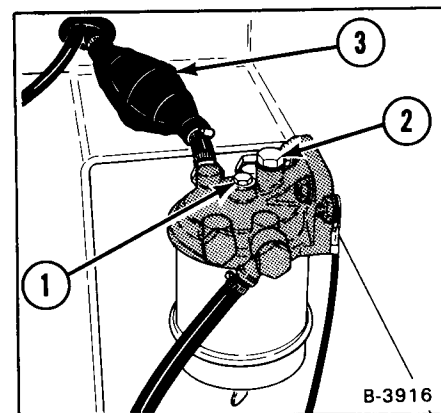
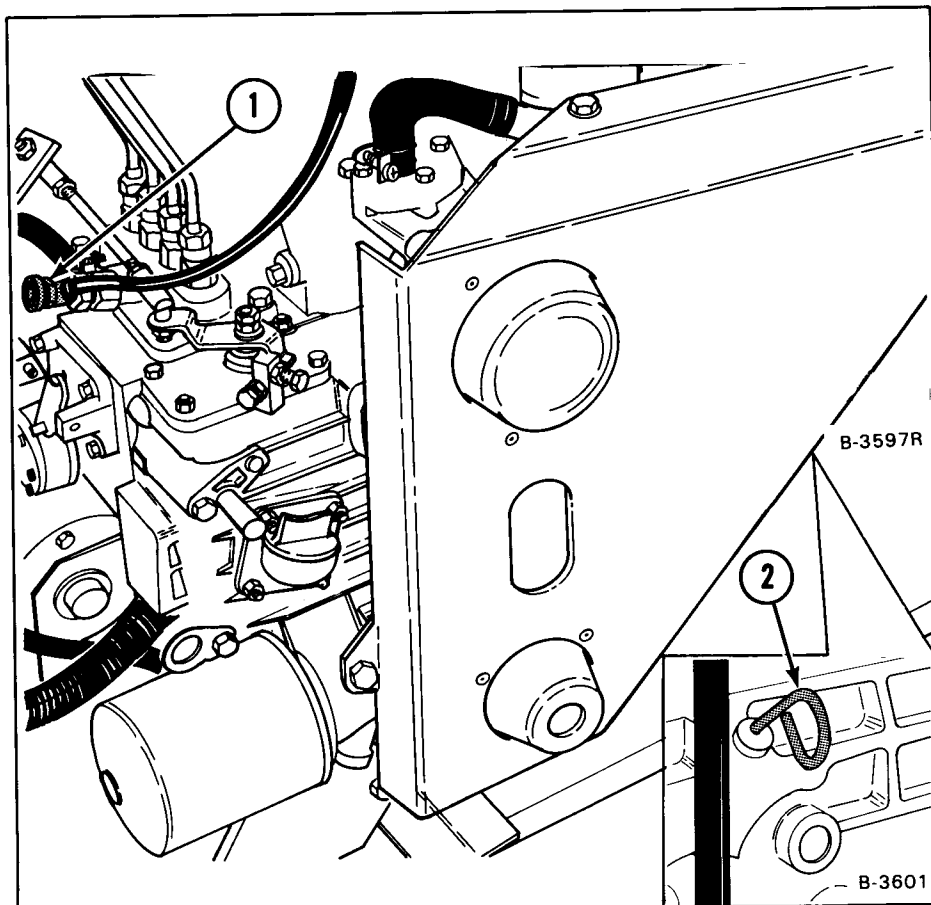

Fig. 47 Fuel Filter Service
Fig. 48 Engine Dipstick Location
2. Remove the filter by removing the bolt (Fig. 47, Item 1).
4. After installing the new element open the fuel shut-off valve. Loosen the plug on the top of the filter head (Fig. 47, Item 2). Do Not tighten the plug until the fuel flows from the ground plug. Then tighten the plug.
1. Position the throttle at minimum RPM. Loosen the valve (Fig. 48, Item 1) on the top of the injector pump and squeeze bulb several times (Fig. 47, Item 3). Turn the engine over with the starter. When the engine starts and runs smoothly, close the valve.
To check the oil level, stop the engine and remove the dipstick at the right side of the engine (Fig. 48, Item 2).